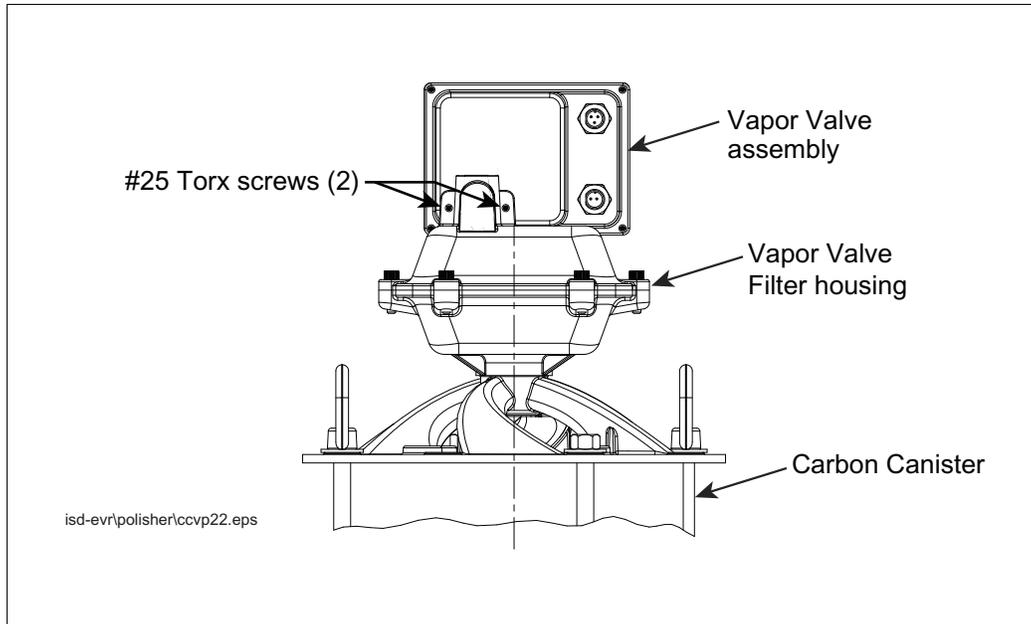

Figure 12. Removing Vapor Valve assembly
2. Remove the two #25 Torx head screws that secures the Vapor Valve assembly to the Vapor Valve Filter housing (see Figure 12).